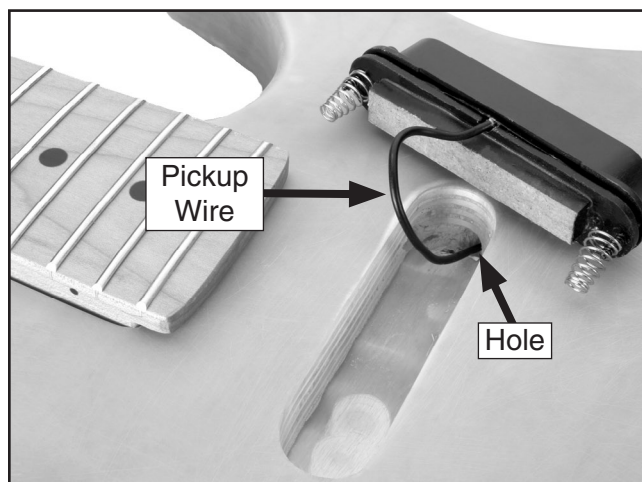

Figure 8. Pickup installation location.
- Using a $\frac{1}{16}$ " bit, drill $\frac{3}{8}$ " deep holes through the holes in the tuning head plate, and secure with the #3 x $\frac{3}{8}$ " black screws as shown in **Figure 8**.
4. Insert the pickup wire (**Figure 8**) through the hole in the pickup mortise and into the circuit board mortise.